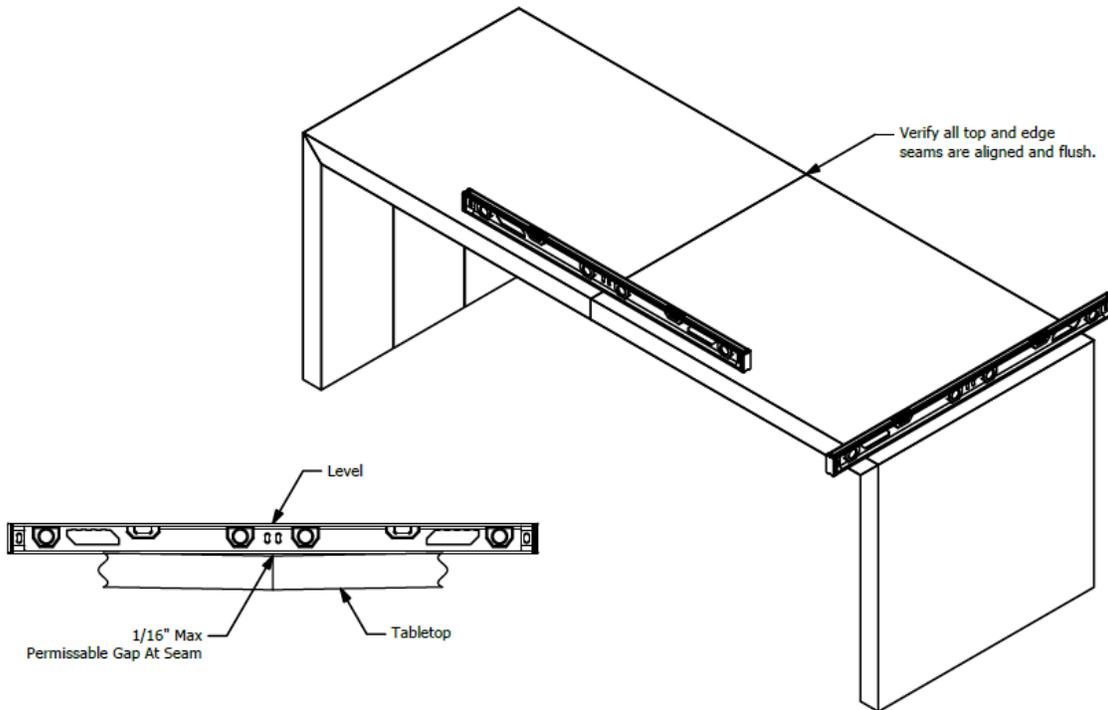

Fig. 07: Table Final Leveling
- 2.2.1 Once properly positioned, verify all top and edge seams are still aligned and flush. Loosen, adjust and re-tighten Zip-Bolts and/or Stiffeners as required if adjustments are needed. A Rubber Mallet with a block of wood to protect the table from damage can be used if it helps. [Fig. 07]
- 2.2.2 Use a level to measure and adjust levelers on Ends to level the table while continually verifying that the edges and top remained aligned. If necessary, make further adjustments to the Zip-Bolts and/or Stiffeners during the leveling process. [Fig. 07]